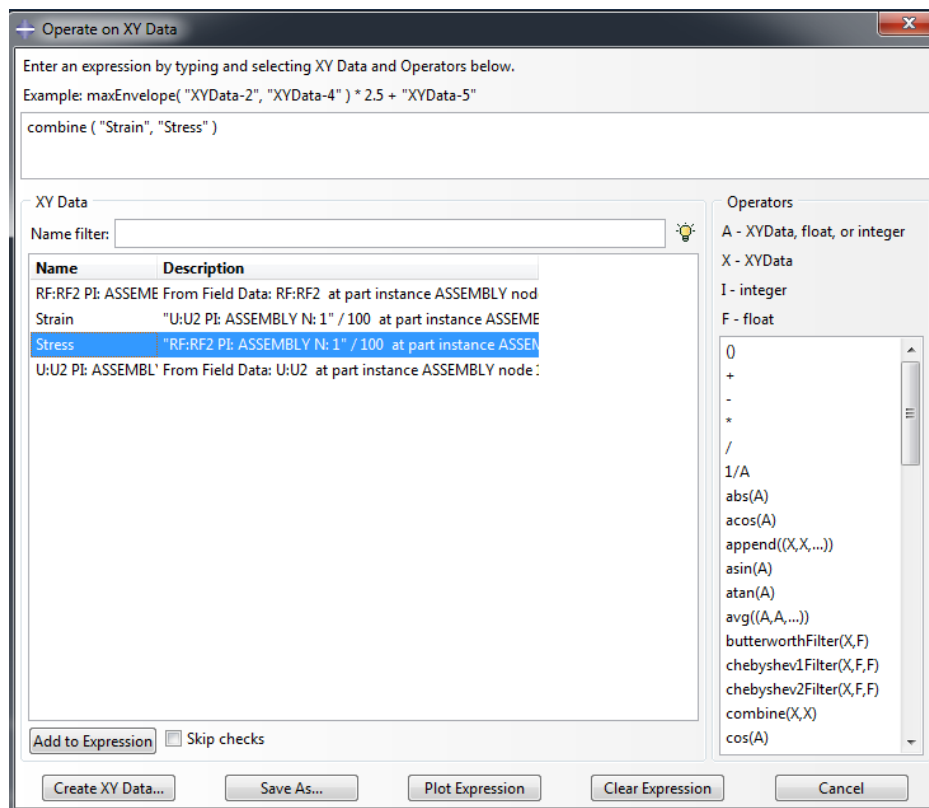

Figure L1a–14. Operations performed on XY Data to plot Stress vs. Strain
7. Without closing the operate on XY Data dialog box, select the **combine** operator. Add the **Strain** XY data first by selecting it and adding it to the expression and then add the **Stress** XY Data as shown in Figure L1a-14. Click **save as** and name the XY Data as **Stress-Strain**.